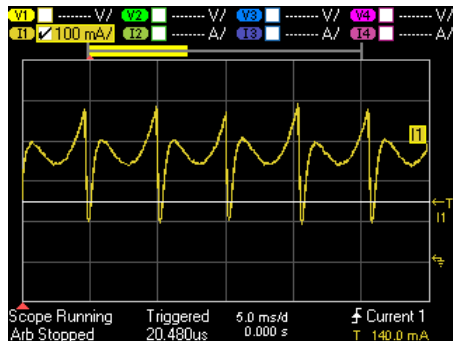
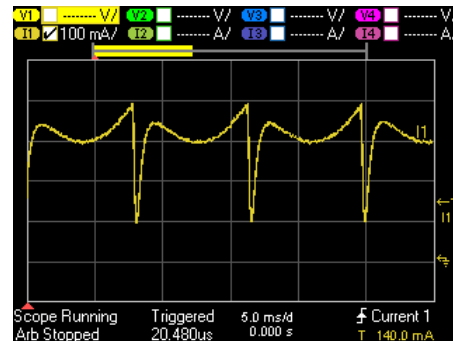

Figure 7 – DC Fan Current Waveform (Scope View)
Figure 8 – DC Fan Current Waveform with Resistance Applied (Scope View)
2. Use your finger to apply resistance to the fan as it spins to see the changes in the waveform. Compare Figure 8 to Figure 7.